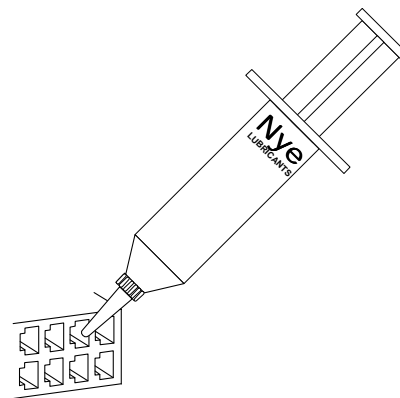

Figure 2
4. **Lubricate** each terminal using Nye 760G lubricant as shown in figure 2. Apply enough lubricant to each terminal opening to completely fill each opening to a depth of .125" maximum.